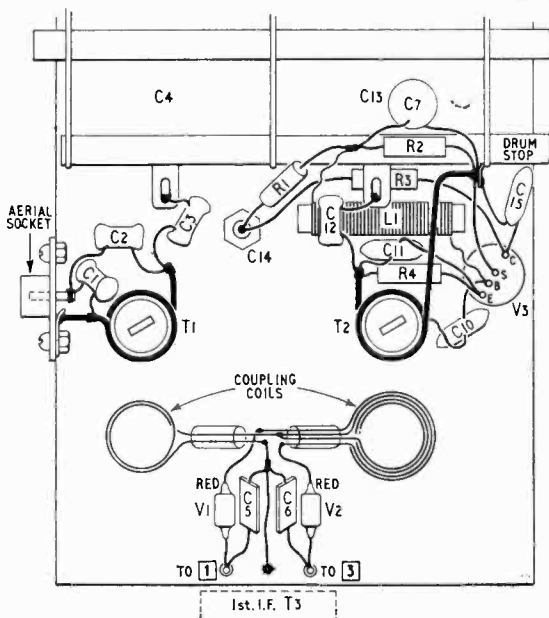

Fig. 3. Layout of r.f. unit. Coupling coils on T1 and T2 are shown, for clarity, as if "lifted off" formers.
**R.F. Unit.**—Fig. 3 shows the layout of the r.f. circuits. The unit chassis measures  $4\frac{1}{2} \times 2\frac{1}{2} \times \frac{3}{8}$  in and is supported  $\frac{3}{8}$  in above the main chassis by four brass pillars; this gives sufficient clearance for the  $2\frac{1}{8}$ -in diameter tuning-drive drum. The tuning coils are wound with the earthy ends uppermost to enable the coupling coils to be added subsequently. The r.f. input coil is wound in a left-hand sense for convenience, and the earth return for the coil and input capacitor is a tag on the input socket. The oscillator transistor is placed close to the tuning capacitor with its base lead adjacent to the oscillator coil, to which it is tapped at the first turn via a 3000-pF ceramic-disc capacitor. The tag on the frame of the tuning capacitor is used as the earth